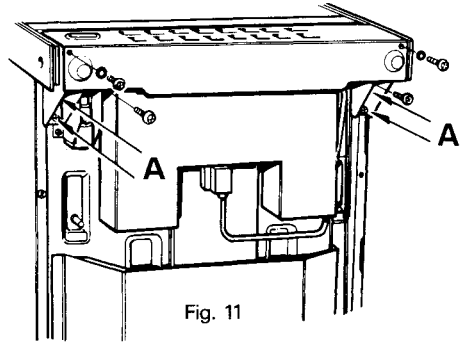

Fig. 11
4. At rear of cooker remove two screws from rear edge of hotplate tray and slacken the upper lid fixing screws (A) (see Fig. 11).
3. Slacken off lid fixing screws (A) and rear hob fixing screws (arrowed Fig. 11).
4. Remove two screws in rear flange of vent panel (Fig. 11). Taking care not to lose the fibre washers.